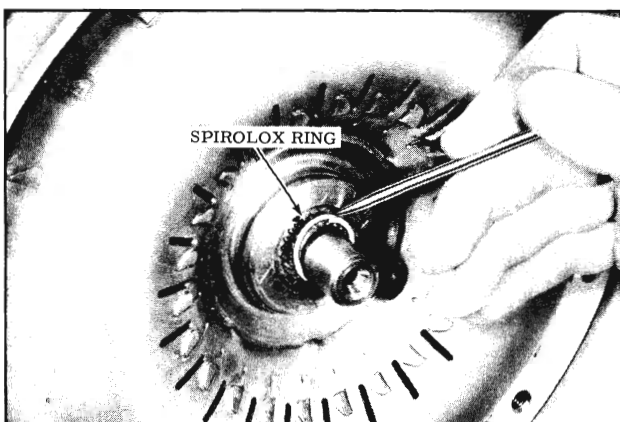

Fig. 3-35 Removing Spirolox Ring
7. From the front of the transmission remove the driven torus member to main shaft Spirolox ring, with a small pointed tool. (Fig. 3-35)